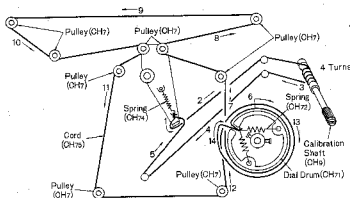

Fig. 30
2. Arrows (1~5) indicate correct order and direction of cord installation, as shown in fig. 30.
2. Set dial drum at the position, as shown in fig. 30.
3. Arrows (6~14) indicate correct order and direction of cord installation, as shown in fig. 30.